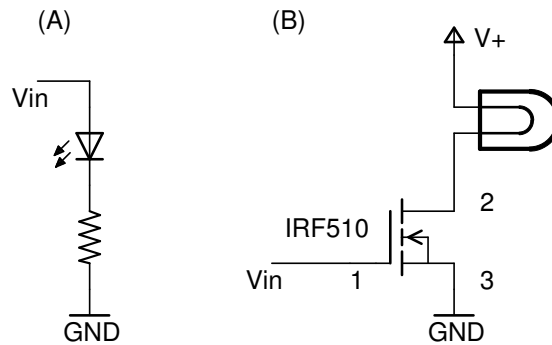

Figure 3: Using a logic signal V_{in} to drive (A) an LED and (B) a light bulb.
- Now that we have a light sensor, let's find something more interesting to measure than just waving your hands over the photodiode. Put in another DAQ Assistant block, but set this one to create a digital output. A continuous pulse train at about 10 Hz would be just about perfect. Use this digital output to drive a red LED (with current-limiting resistance in series) on the ELVIS II board, and arrange the layout of components so that the photodiode is looking at the LED. (See figure 3(A).) Verify that things work as expected: you should see a square wave on the waveform graph.
- Now check what happens with an incandescent bulb. Replace the red LED with a flashlight bulb. The digital output on the ELVIS II board is not sufficient to supply the approximately 500 mA required by a flashlight bulb, so use an N-Channel Enhancement-Mode MOSFET as a switch. (See figure 3(B).)⁷